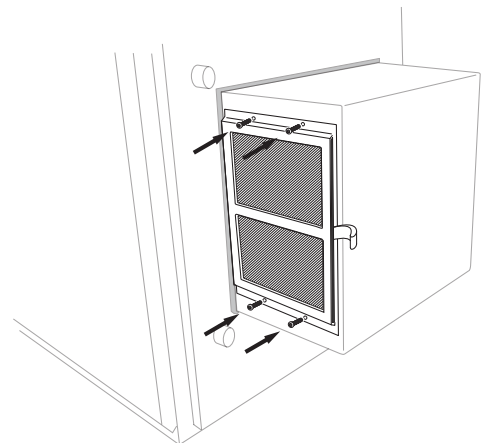

Fig. 4-3, Reinstalling the Filter Bracket
4. Reinstall fasteners removed in Step 1 (see Fig. 4-3).